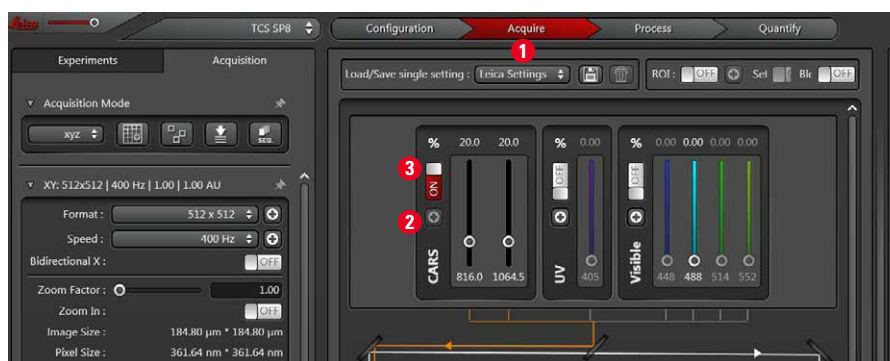
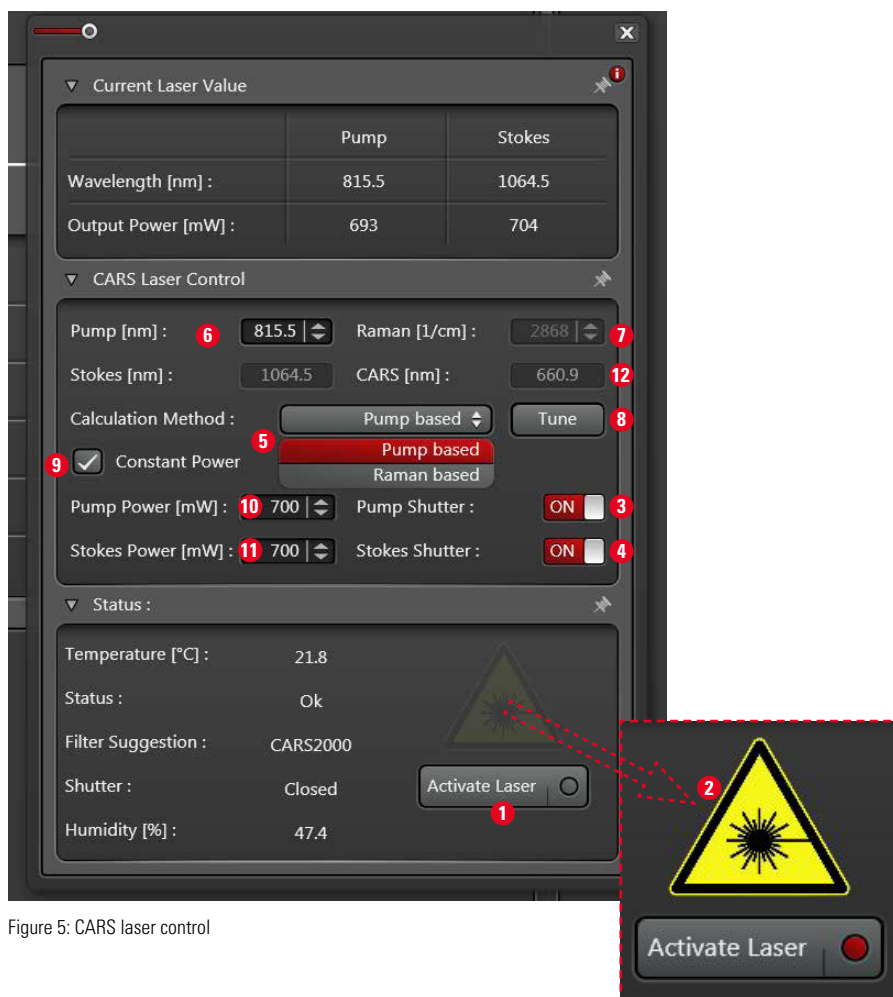
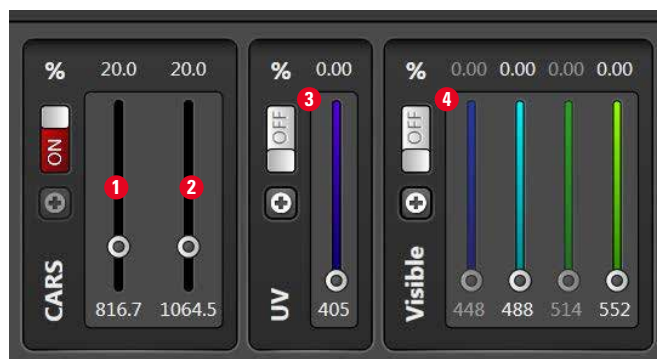

Figure 4: CARS laser control in configuration
Figure 5: CARS laser control
Figure 8: AOTF for CARS laser power control
Go to the **Acquire** tab **1**, as in **Figure 4**, and click on the button with the plus sign **2** to open the CARS laser control dialog window (see **Figure 5**). Click the **Activate Laser** button **1** for about 3 seconds to open the main shutter of the laser unit. The radiation warning **2** will brighten, indicating that the laser radiation is on. The individual shutters **3** and **4** (see **Figure 5**) control the pump and the Stokes laser, respectively. They should be opened by default. If they are closed for any reason, open both for CARS imaging. Open the safety shutter by clicking the button **3** in **Figure 4**. Now the CARS laser is ready for imaging.
There are two modes (or **Calculation Methods**) for tuning the laser wavelength. These are listed in the drop-down menu **5** in **Figure 5**; either of the modes can be selected as per your preference. In the **Pump based** mode, you can directly type in the wavelength in the edit field **6**. In case you do not know the pump wavelength and would rather obtain a CARS image at a specific Raman shift, you can switch to the **Raman based** calculation method and type in the Raman shift in the edit field **7**. The pump wavelength will be calculated automatically. Click on the **Tune** **8** button to tune the wavelength. Note that the wavelength tuning process can be performed even during live image acquisition. If the constant power button **9** is activated (default), the output power can be controlled directly by typing in a number in the edit field **10** and **11** for the pump and Stokes laser line, respectively. In case maximal laser output is needed, just deactivate the constant power button.
Start **Live scan ④**. Increase the AOTF transmission, as shown in **Figure 8**, for both pump ① and Stokes ② lasers until you get an image. The power adjustment can be combined with the control of output power under the constant power mode, see ⑨ in **Figure 5**.
Since you are using highly sensitive non-descanned detection, please set AOTF for all visible and UV lasers to 0 and close the shutters ③ and ④ as in **Figure 8**. Stray light would otherwise cause an unwanted background signal that might swamp the CARS signal.
Constant power mode is activated by checking box **9** in **Figure 5**. Pump and Stokes laser lines are set separately with different values for constant power.